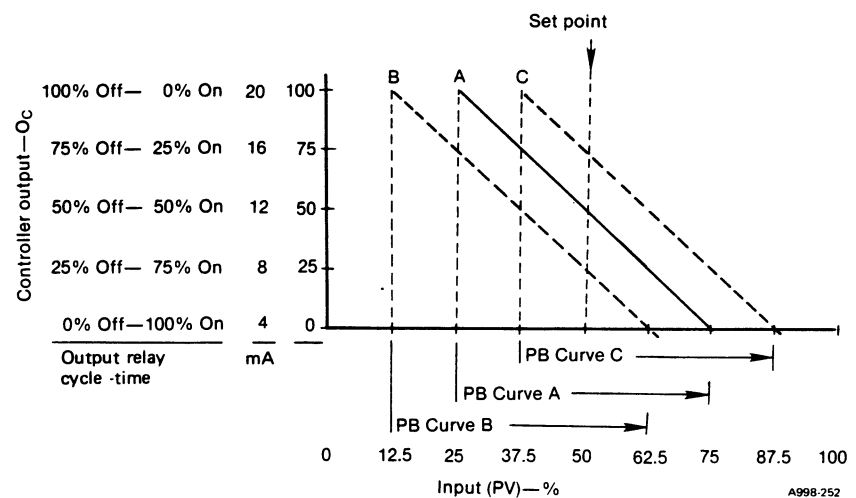
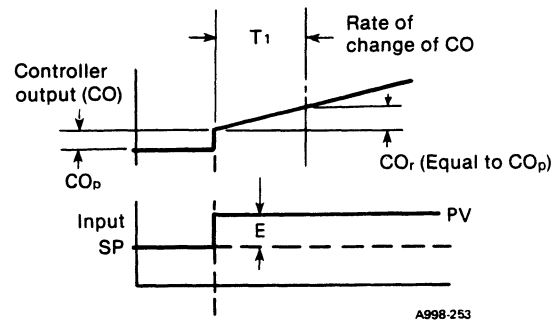

Figure 6-7—Controller output action with proportional action
Figure 6-8—Controller output action with proportional plus reset
In proportional control, there is a fixed linear relationship between the value of the controlled variable (PV), and the value of the controller output (CO). The proportional controller changes CO a preset amount for a change in PV. The portion of the PV span within which the control action takes place is called the proportional band (PB). The PB is usually expressed as a percentage of the PV span. The three curves in Figure 6-7 graphically portray the action of a controller output within a proportional band. Curve A is based on the following:
Current Proportioning	The current proportioning controller action is the same as that for the example shown in Figure 6-7. The controller output is in milliamperes.
Time Proportioning	In time proportioning control, the output is a relay which is cycled on and off at a constant rate. However, the ratio of the on-time to the off-time varies in proportion to the amount the PV deviates from the SP. Figure 6 shows how the relay position is controlled under the same process conditions and controller settings as used for the current proportional controller. Notice that CO is the percentages of the output relay on-time and off-time, and that these percentages change in proportion to the change of the PV from the SP. In Figure 6-7, the CO at which the PV equals the set point is 50% (50% off-50% on). If the PV increases 25%, the proportions become 75% off-25% on. If the PV decreases 25%, the proportions become 25% off-75% on.
Proportional plus Reset	Proportional control reduces the PV cycling rate and amplitude below that of two position control, even with moderate load changes. However, sometimes the change in the output with proportional control is not enough to make the PV equal the set point. This continuing difference between the PV and the SP is called "offset." How to eliminate offset is discussed here. The offset present with proportional control only is due to the fact that, under the new load conditions, the controlled element is not positioned to supply the proper amount of energy or other medium to cause the PV to equal SP. Curve B in Figure 6-7 illustrates the Proportional control action line when the load is too large and the energy or medium is insufficient, and Curve C illustrates the Proportional Control action line when the load is too small and the energy or medium is too great. To correct these conditions it is necessary to "reset" the controller output so that it will move the controlled element to the proper position. The reset can be done manually or automatically. If done manually, the operator controls when the reset is made, the amount of the reset, and the time it takes to make the reset. If done automatically, the operator has to predetermine the time for the reset and set the value in the controller; then the controller will automatically make the reset. In the proportional plus reset mode, as soon as there is a difference between the SP and the PV, the reset action starts to change the output beyond that made by the proportional action, and at a rate proportional to the difference between the SP and the PV. For example, a four percent difference between the SP and the PV causes a change in controller output to be added to that caused by the proportional action at twice the rate as that for a two percent difference. Reset action causes an additional change in output as long as a difference exists. The amount of change for each minute the difference between the SP and PV exists is equal to that made by the proportional action, and is called the Reset Time in minutes per repeat. For example, if you set a Reset Time of 2, the reset action adds a change in controller output equal to 200% of the proportional action every 2 minutes the difference between the SP and the PV exists. Figure 6-8 illustrates reset action. T_r is the time per repeat, E is the difference between the Sp and PV, CO_p is the change in output due to proportional action, and CO_r is the change in output due to reset action. With proportional control, even with the reset action added, the length of time it takes to make the output change is sometimes too great. To correct this condition, a control action called "rate" can be added to a proportional controller. The affect of the rate action on the controller output is discussed next under the next heading "Proportional plus Rate."